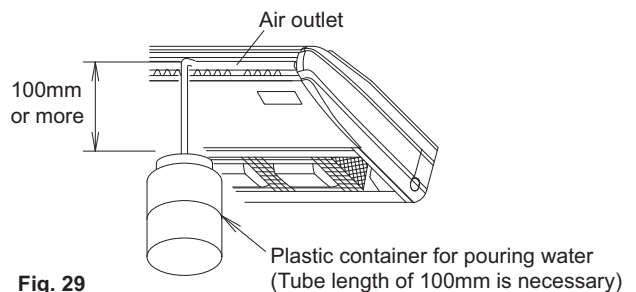

Fig. 29
- (2) After piping is finished, check if the drain flows smoothly.
- Gradually put about 0.6 liter of water for drain confirmation into the drain pan from the air outlet. (Refer to Fig. 29)